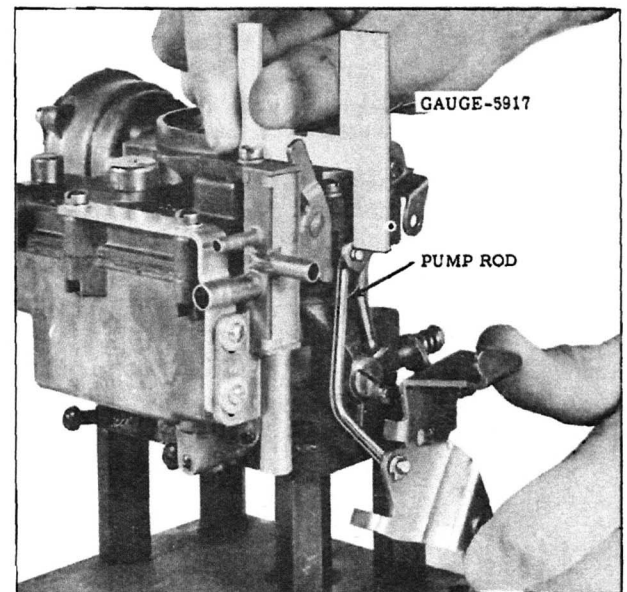

Fig. 39 Pump Rod Adjustment
2. Hold throttle valves closed. Check distance from top of air horn to top of pump rod with gauge J-5917 as shown in Fig. 39. This distance should be $15/16$ ".